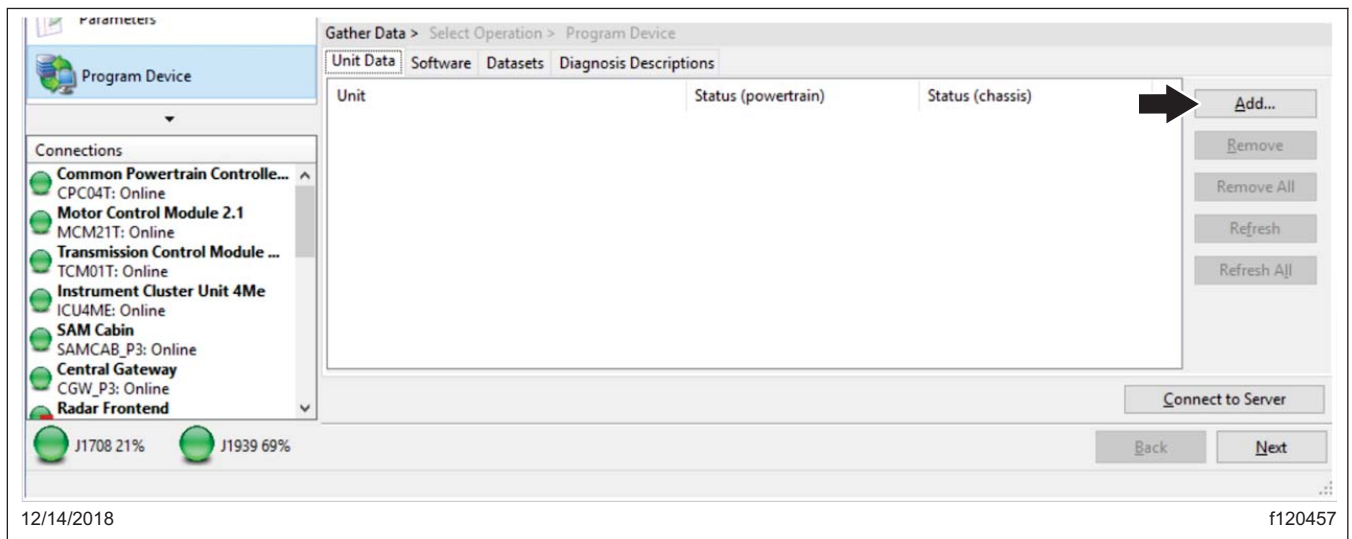

Fig. 5, Adding the VIN to Download Updated Server Data
6. Click "Add" to add a download request for the vehicle. See Fig. 5.